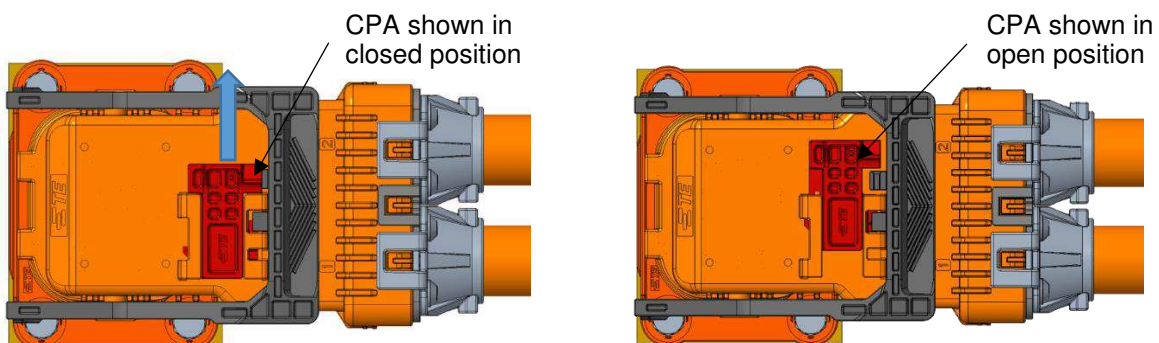

Figure 22: CPA Actuation from Close to Open
1. Push the red CPA forward until it stops as shown in Figure 22.